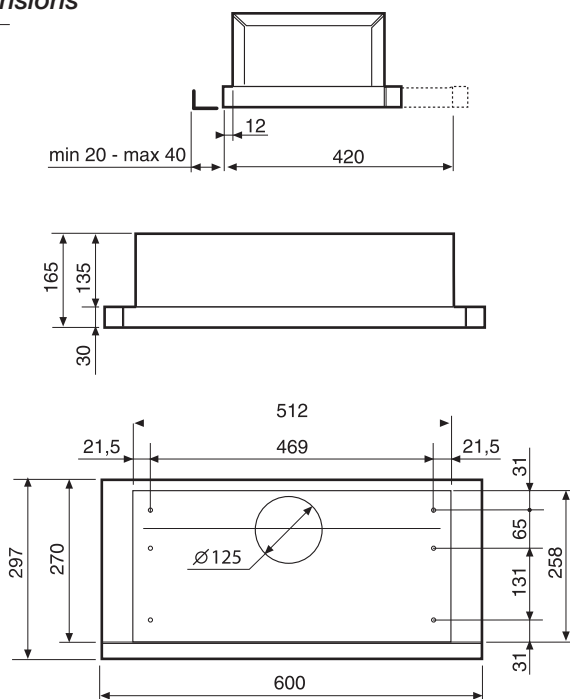

Fig. 1
- For fixing use 4 screws suitable for the cupboard, using the holes in Fig.1.